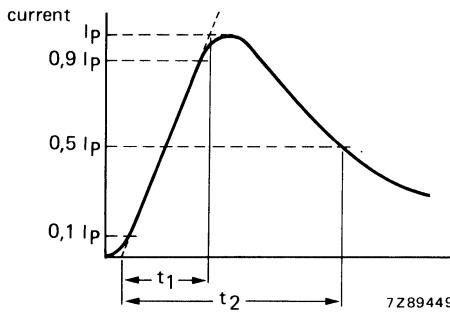

Fig. 5.
6. High energy surges are generally of longer duration. The max. energy for 1 impulse 10/1000 μ s is given as a reference for long duration impulses. This impulse can be characterized by peak current I_p and impulse width t_2 (virtual time to half I_p value, defined in IEC 60-2 section 6), see Fig. 5. If V_p is the clamping voltage corresponding to I_p , the energy absorbed in the VDR is determined by equation $E = K \cdot V_p \cdot I_p \cdot t_2$; K depends on t_2 . When t_2 is 8 to 10 μ s and $t_2 = 20 \mu$ s, $K = 1$; when $t_2 = 50 \mu$ s, $K = 1,2$; when $t_2 = 100 \mu$ s, $K = 1,3$; when $t_2 = 1000 \mu$ s, $K = 1,4$.